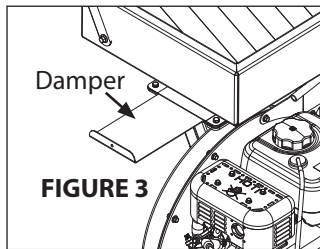

FIGURE 3
6. Close damper at the base of the hopper. **FIGURE 3**